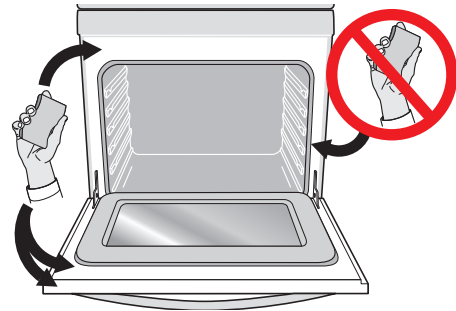

Figure 6: Areas to clean or avoid on door frame
- Clean any soil from the oven frame, the door liner outside the oven door gasket and the small area at the front center of the oven bottom. These areas heat sufficiently to burn soil on. Clean with soap and water. These areas are shown in white (See Figure 6).
- Do not clean the oven door gasket (See Figure 6). The woven material of the oven door gasket is essential for a good seal. Care should be taken not to rub, damage or remove the gasket.